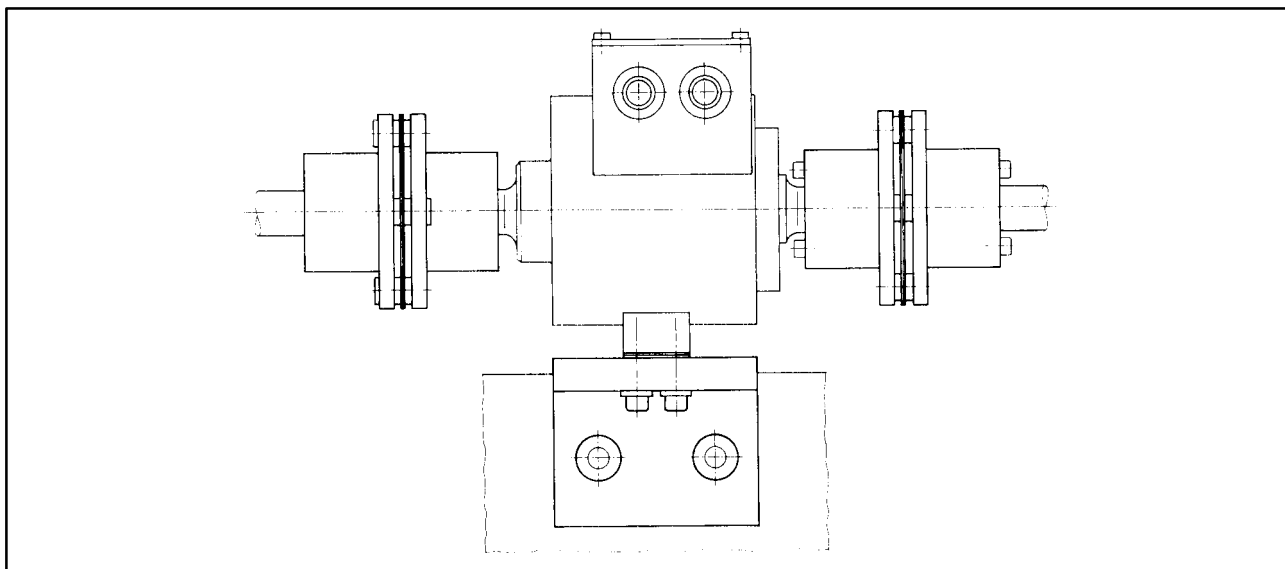

Fig.3.1: Installation example using disc-type coupling
- Connect the stub shaft of the torque transducer to the shaft or coupling of the object to be measured. The mating surface of the stator mounting base must seat cleanly on the mounting surface, with no free play or strain distortions. Compensate for height using suitable shims or spacers (cf. Fig. 3.1).